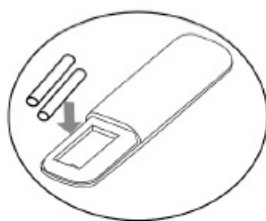

Fig. 2
- Insert two new batteries, paying attention to the polarity (fig.2).